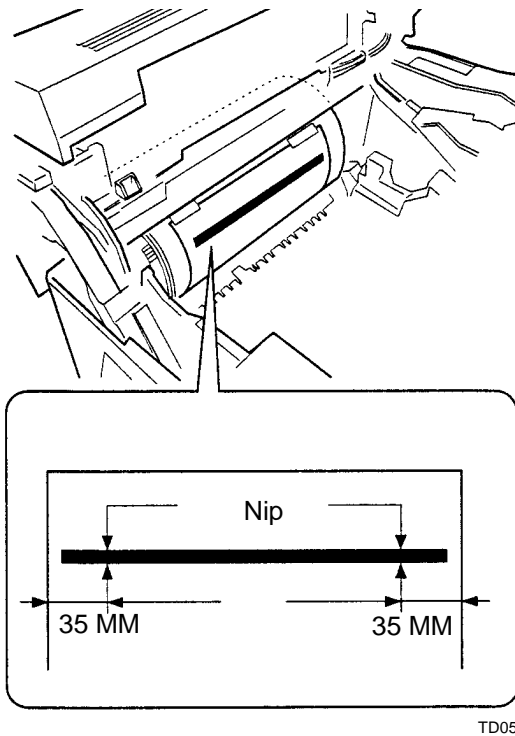

Figure 3. Measuring the Nip
8. (Figure 3): Remove the paper and measure the width (Nip) of the Image on the paper. Make the measurement 35 MM from the edge of the paper.